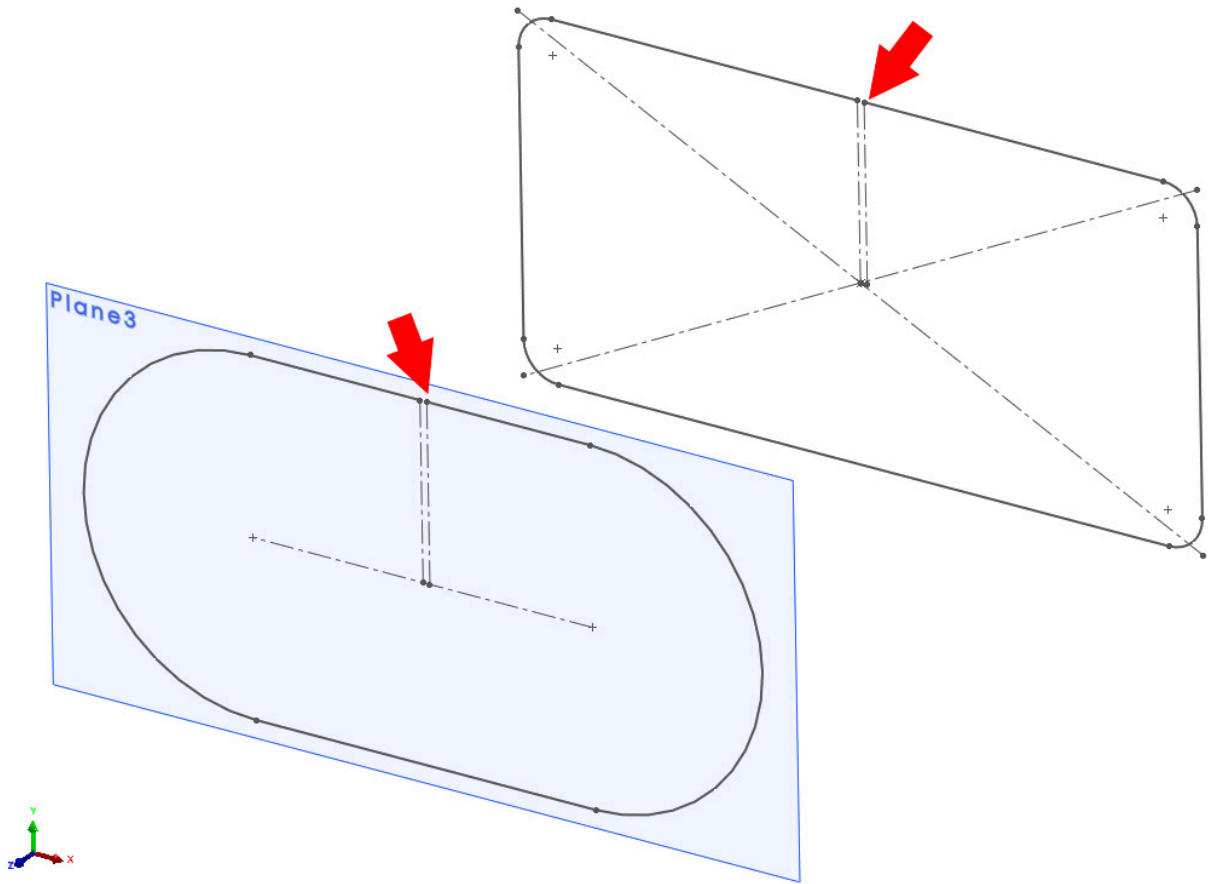

Figure 7.5: Try to select corresponding points on each of the profile sketches
*When selecting Loft Profiles, try to ensure that you select corresponding points in each sketch. For example, if you select the point at the top-right center of the straight line on the first (rectangle) sketch, then also select a point in the same position on the second (slot) sketch (see the arrows in Figure 7.5).*